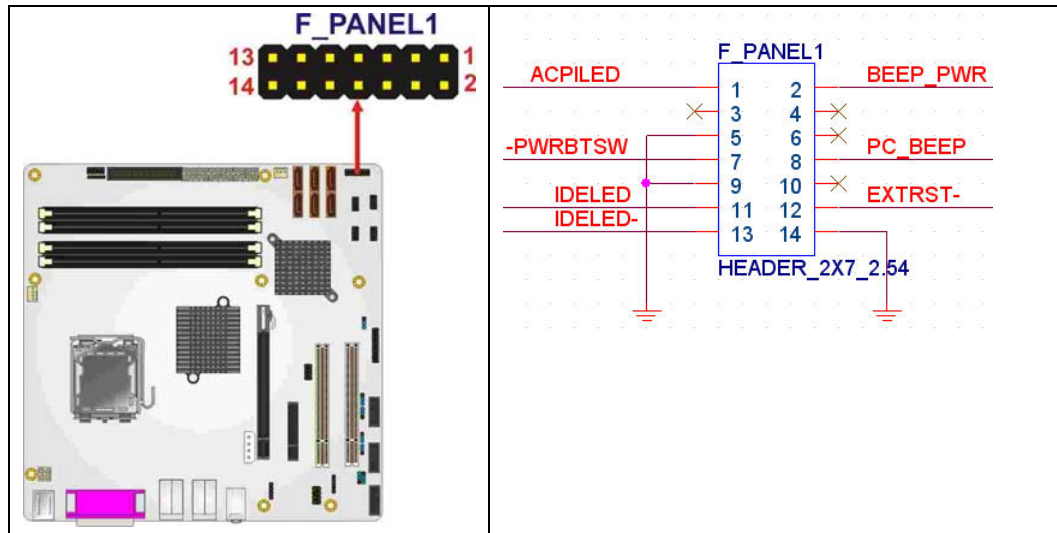

Figure 4-10: Front Panel Connector Pinout Locations (14-pin)
- CN Location:** See **Figure 4-10**